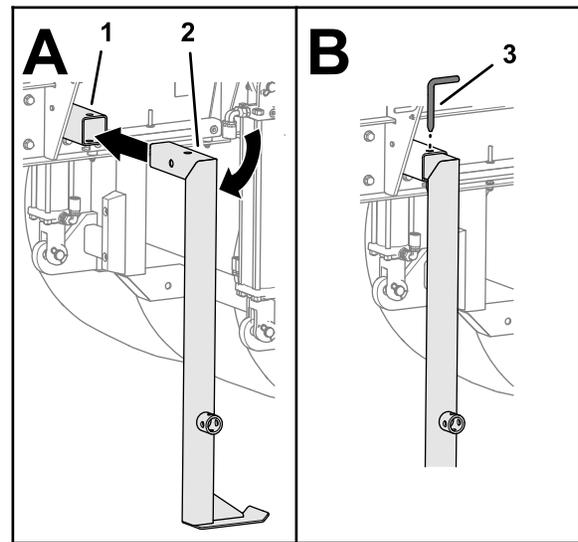

Figure 23
5. Rotate the rear-jack leg down and insert it into the leg tube (Figure 23).
6. Align the holes in the jack leg and tube, and secure the jack leg with the jack-leg pin (Figure 23).